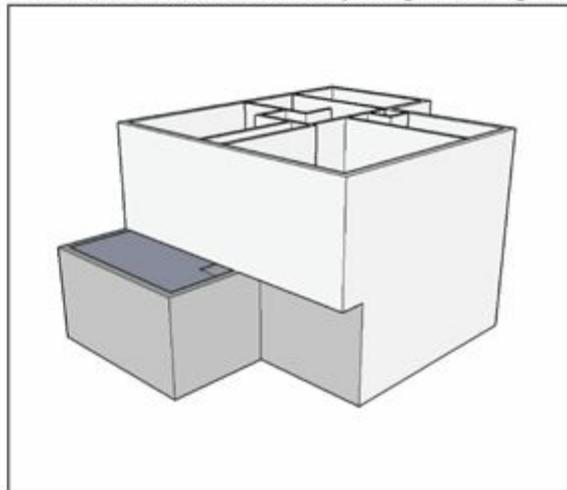

FIGURE 4-24: Do what you need to do to make your exterior walls look right.
In Figure 4-24, you can see where the model has extra edges that need to be deleted.
3. With the Push/Pull tool, extrude your exterior walls up to the height of your second-floor interior walls (also shown in Figure 4-24).
You can see the result in the lower right of Figure 4-24.